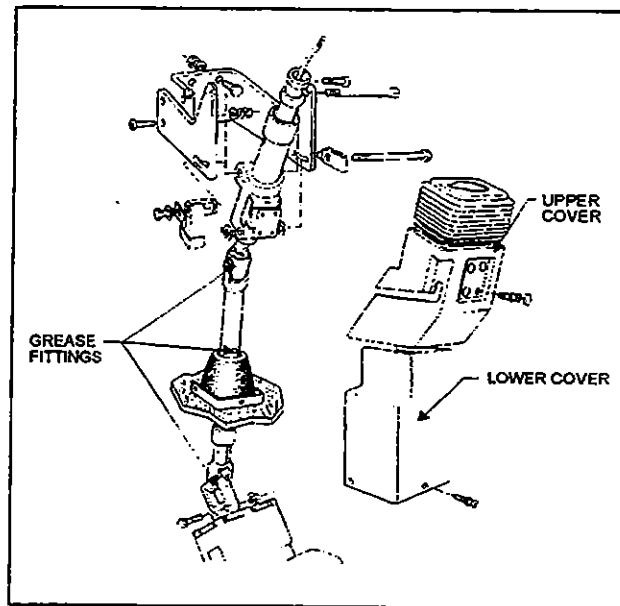

Figure 3: Steering Column
1. From the front driver's area, unfasten and lift the steering column boot, then remove the four snap caps on front of upper steering column cover (refer to Fig. 3).